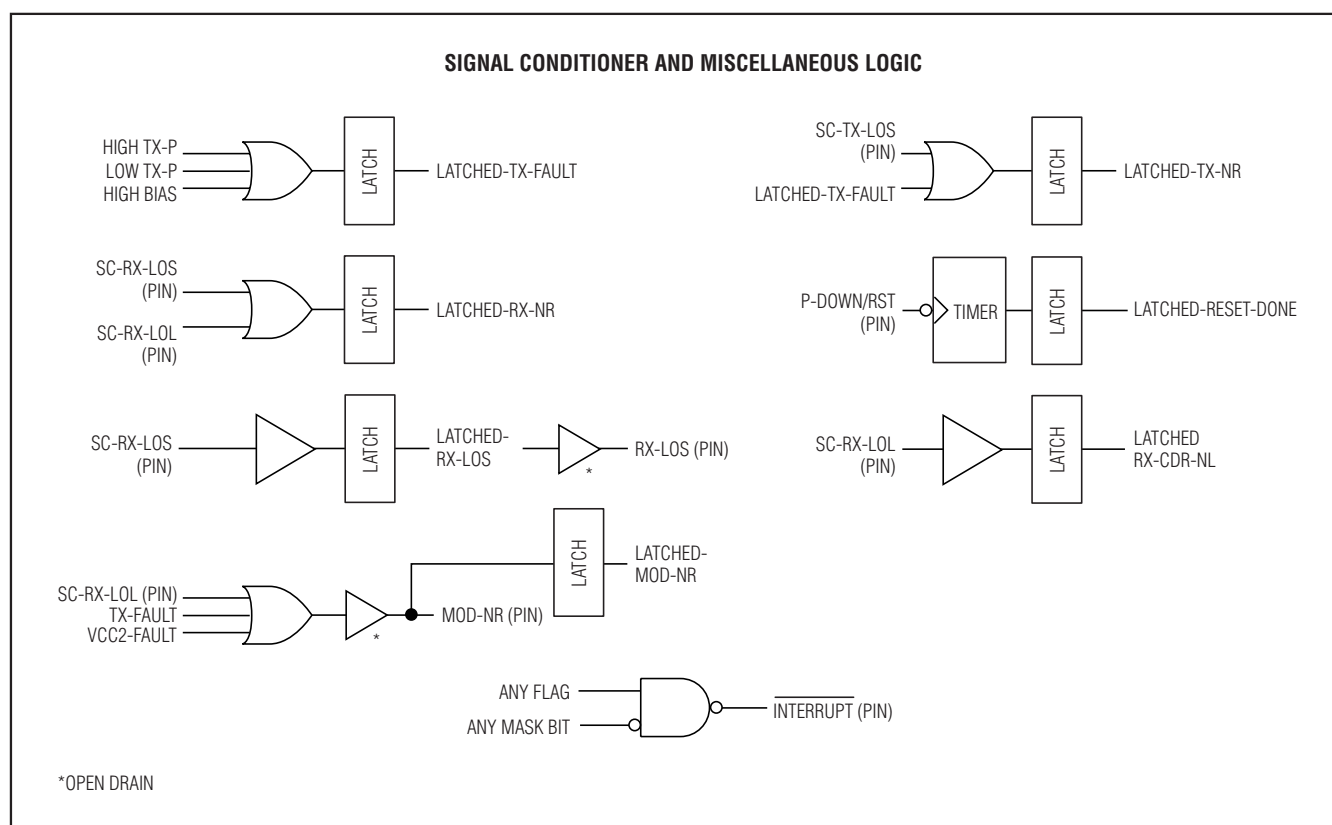

Figure 11. Signal Conditioner and Other Logic
The DS1862 also has flags that are set by certain logical conditions on signal conditioner (SC) pins: SC-RX-LOL, SC-RX-LOS, SC-TX-LOS. Similarly, for each latched signal conditioner flag there are also mask bits that are capable of preventing the alarm or warning flag from causing an $\overline{\text{INTERRUPT}}$ pin to assert. Again, flags are cleared automatically whenever their memory address is read. See Figure 11 for more detail.